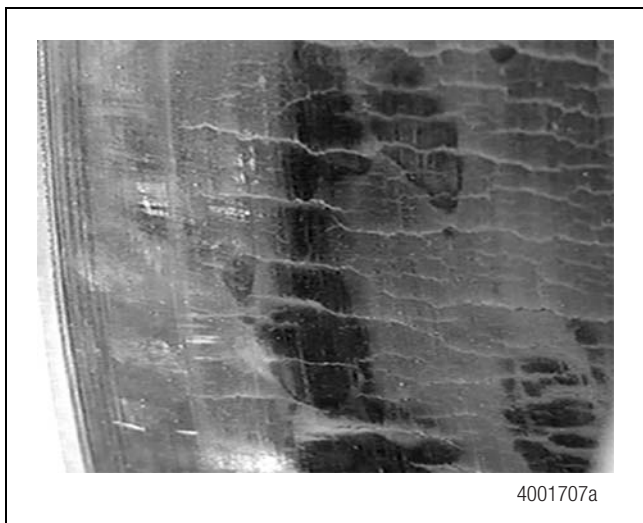

Figure 6.7
2. On one side only. Figure 6.7.